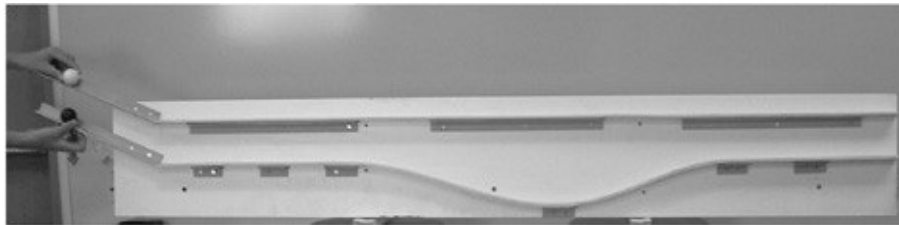

Figure 50-1 *Both ball start at the same height. Courtesy Dan Silver.*
One path is shorter. So you might think it will take the least amount of time. Because both objects return to the same height, they wind up with the same amount of energy. How does that affect the overall time for the journey? Figure 50-1 shows the two paths.
2. Another way to measure velocity is to take advantage of the fact that the range of a horizontal projectile (as you saw in Project 6) depends only on its height above the ground and the velocity with which it leaves the horizontal surface. In the apparatus shown in Fig 50-1 it is clear that the starting and stopping level for each of the tracks is at a different height above the ground. This does not affect their movement relative to each other. However, it does give the track on top an advantage where it will land unless the height difference is compensated for by raising the landing level. If this is done, balls that move the same distance along the ground have the same velocity. Some designs such as a track used at Michigan State University (<http://demo.pa.msu.edu/PicList.asp?DID=DID18>) are built with the two tracks side-by-side, so this velocity comparison can be made more easily. Plans for a similar racing-ball track are available from the University of Maryland Physics Department at <http://www.physics.umd.edu/deptinfo/facilities/lecdem/services/demos/dem11dwg.jpg>.